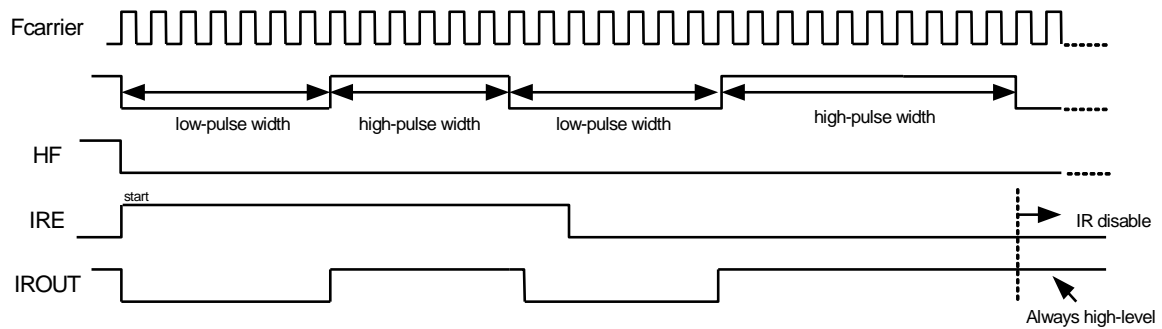

Figure 6-24 LGP=0, IROUT Pin Output Waveform
**Figure 6-24** LGP=0, HF=0, the IROUT waveform can not modulate Fcarrier waveform when in low-pulse width time. So IROUT waveform is determined by high-pulse time and low-pulse time. This mode can produce standard PWM waveform. When IRE goes from high to low, the output waveform of IROUT will keep on transmitting till high-pulse width timer interrupt occurs.